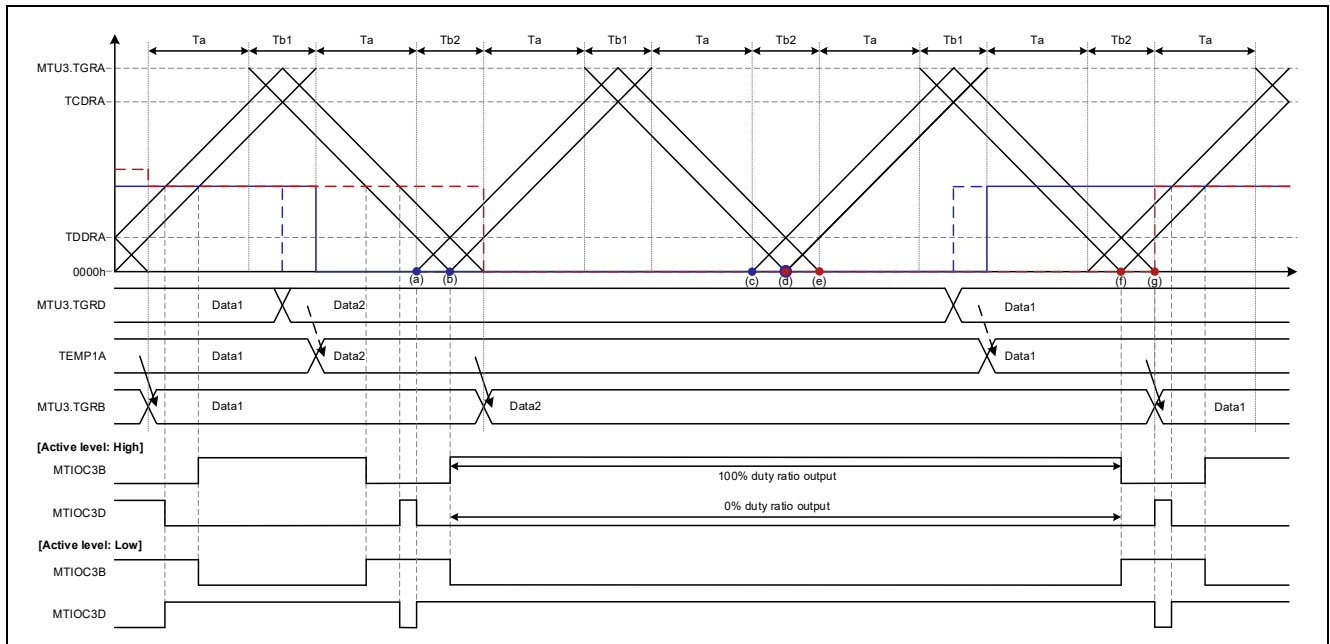
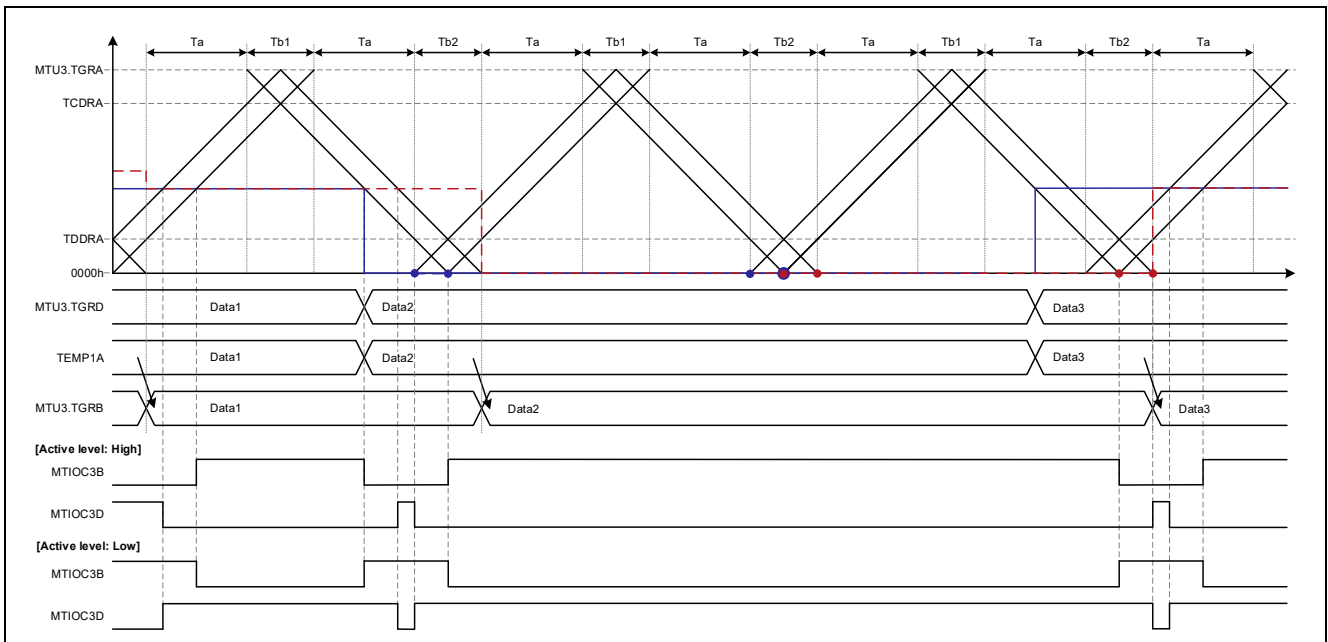
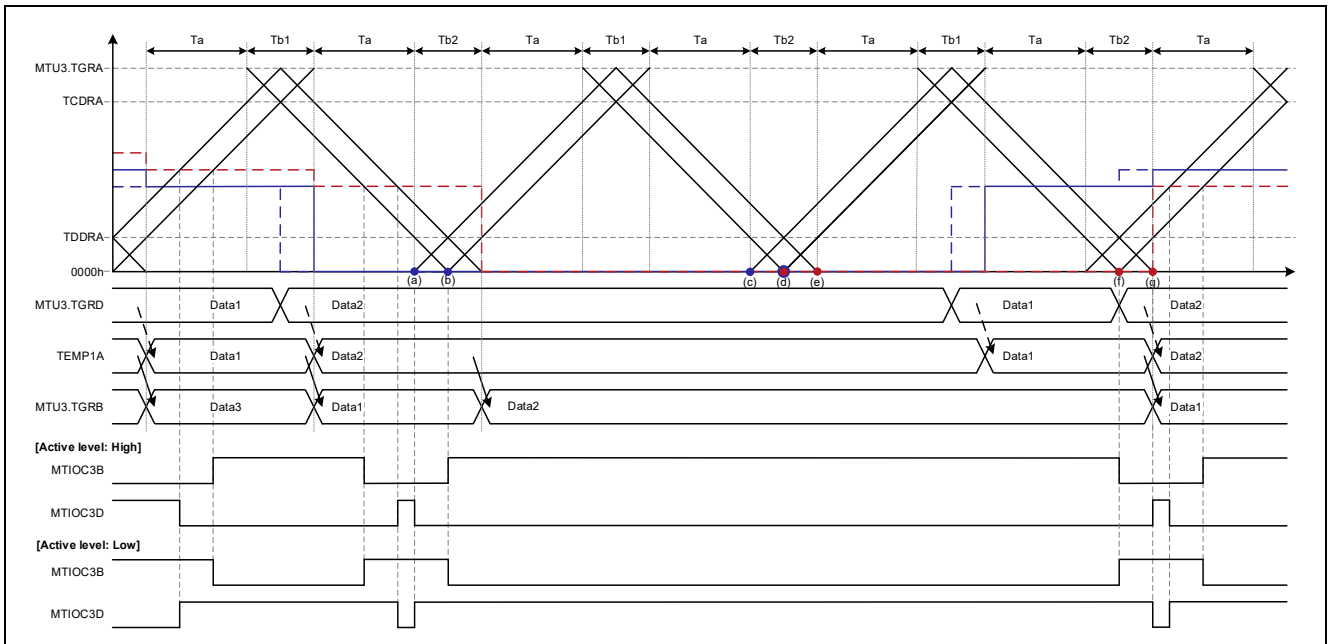
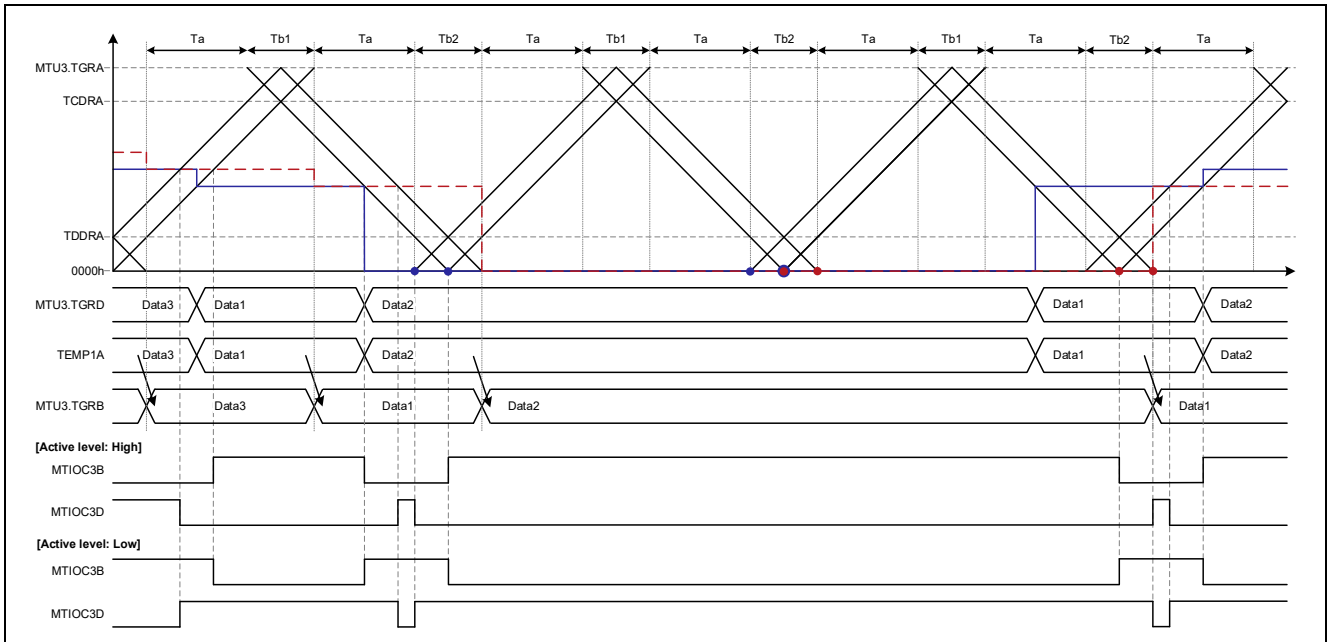

Figure 1.11 Complementary PWM Mode 2 Operation Example
Figure 1.12 Complementary PWM Mode 2 Operation Example
Figure 1.13 Complementary PWM Mode 3 Operation Example
Figure 1.14 Complementary PWM Mode 3 Operation Example
Of the 0% and 100% duty cycle waveform output operation examples in each MTU operating mode listed in Table 1.6, Figure 1.11 to Figure 1.14 illustrate the 100% duty cycle output operation examples.
- [Operation example 1] Figure 1.11, Complementary PWM Mode 2, Output Start: Trough, Tb Interval Overwrite
- [Operation example 2] Figure 1.12, Complementary PWM Mode 2, Output Start: Trough, Ta Interval Overwrite
- [Operation example 3] Figure 1.13, Complementary PWM Mode 3, Output Start: Trough, Tb Interval Overwrite
- [Operation example 4] Figure 1.14, Complementary PWM Mode 3, Output Start: Trough, Ta Interval Overwrite
Figure 1.11 shows an operation example of buffer overwrite in the Tb1 interval (crest) in complementary PWM mode 2.
Figure 1.12 shows an operation example of buffer overwrite in the Ta interval in complementary PWM mode 2. Except for the difference in the buffer overwrite timing, the operation is the same as that shown in Figure 1.11.
Figure 1.13 shows an operation example of buffer overwrite in the Tb interval in complementary PWM mode 3.
Figure 1.14 shows an operation example of buffer overwrite in the Ta interval in complementary PWM mode 3. Except for the difference in the buffer overwrite timing, the operation is the same as that shown in Figure 1.13.